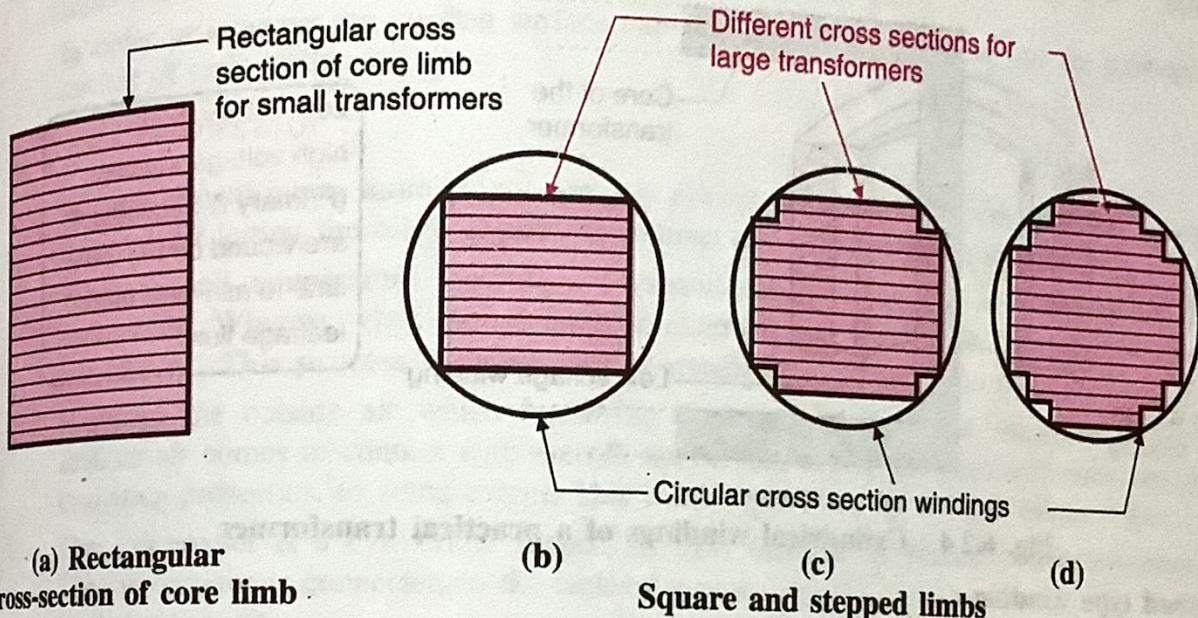

Fig. 6.2.3
- The cross-section of the limb of the core of small transformer is rectangular as shown in Fig. 6.2.3(a) and the windings wound around it are also rectangular.
- The cross-section of the limb of core of such transformers is either square or stepped as shown in Figs. 6.2.3(b), (c) and (d).